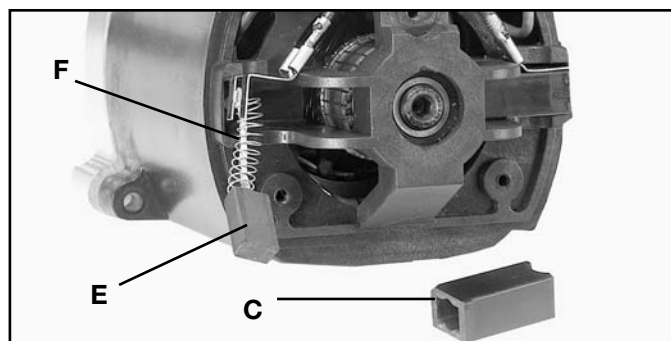

Fig. 49
3. Fig. 49, illustrates one of the brushes (E) removed from the holder (C). When the carbon on either brush (E) is worn to 3/16" in length or if either spring (F) or shunt wire is burned or damaged in any way, replace both brushes. If the brushes are found serviceable after removing, reinstall them in the same position as removed.